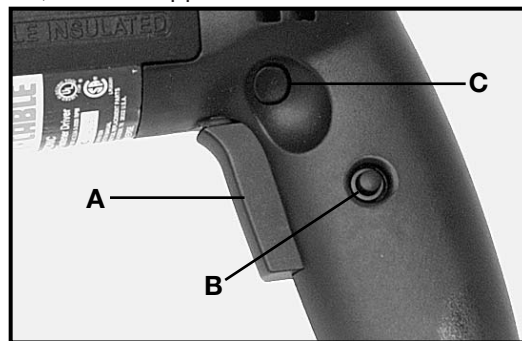

Fig. 1
2. Squeeze trigger switch (A), Fig. 1, to start motor, as the trigger switch is squeezed, the driver speed increases. The screwdriver bit will not rotate until engaged in a fastener and forward pressure is applied to the tool. To stop motor, release trigger switch.
3. LOCK BUTTON - A lock button (B), Fig. 1, is provided to keep motor running without holding the trigger switch ON.
4. DIRECTION OF ROTATION – PORTER-CABLE screwdrivers will rotate either in a clockwise direction for driving fasteners with a right hand thread, or a counter clockwise direction for removing fasteners with a right hand thread. To determine rotation, stop the motor by releasing the trigger switch and move the reversing lever (C), Fig. 1, in the direction marked “reverse” for counter-clockwise rotation, or in the opposite direction for clockwise rotation.